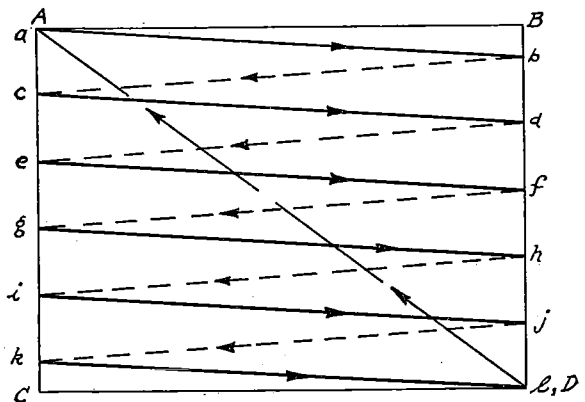

FIG. 13.—A simple progressive scanning pattern in which the picture is scanned in a series of lines which start at the upper left and slope down to the right.
As we have already mentioned, the usual scan is from left to right and from top to bottom. In certain cases this order must be reversed, but the principle is the same. In Fig. 13 is shown a simplified diagram of a scanning pattern; this is often called a "raster." The rectangular diagram formed by the light lines connecting points A, B, C and D represents what we may call the "picture space." The width of this rectangle (AB) is drawn so as to be $4/3$ times the height (AC); this is the proportion used in motion pictures. The ratio of width to height is called the "picture aspect ratio" and its value of $4/3$ is one of the proposed RMA television standards. On a picture tube, the heavy lines ab, cd, etc., are caused by the fluorescent glow which occurs as the electron beam moves from point a to point b (in the direction of the arrow on line ab). You will notice that points a and A coincide, while point b is slightly *below* point B. In fact, *all* the lines in Fig. 13 slant downward. This slant is necessary to provide the *vertical* (top-to-bottom) part of the scanning process. In fact, the left-to-right component of scanning is called "horizontal scanning" or "line scanning"; the top-to-bottom component is called "vertical scanning" (also called "frame scanning" or "field scanning," for reasons which will be clear later on). This slant-line system of scanning is used because the characteristics of the electrical circuits which provide scanning make it impossible to scan in a series of truly horizontal lines, with an abrupt vertical drop at the end of each line.
A complete set of lines such as shown in Fig. 13 is called a "frame." This particular frame is completed when the spot reaches point l; it then returns to point a to start a new frame. A frame like that shown in Fig. 13 is said to be built up by "progressive scanning" (the lines follow each other in a continuous chain). Six complete lines (retraces are not counted) are shown in this figure; a complete technical description of this figure would be: "A six-line frame (or raster) produced by progressive linear scanning." Of course, so few lines as we have shown would be insufficient to give a good picture, and a very great many more are actually used. In order to give the eye the illusion of motion, many complete frames must be
space to begin the second field. During the second field, line 7 is completed and lines 2, 4 and 6 are traced, thus completing the entire seven-line frame in two steps. (As in Fig. 13, the arrows show the direction of travel of the beam spot.) The use of an odd number of lines has been found advantageous in interlaced scanning; this method is called "odd-line interlacing." American practice calls for 220.5 lines in each field, making 441 total lines per frame. Sixty fields are transmitted each second, giving a field frequency of 60 per second.